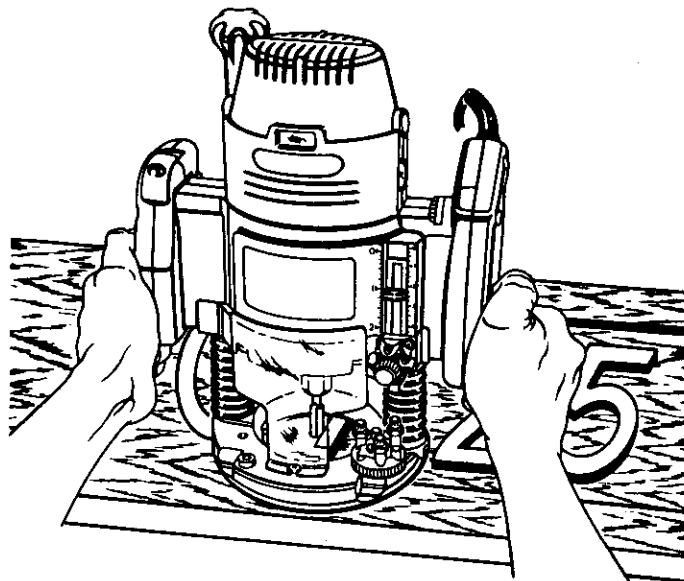

Fig. 23
See Figure 23.
- Routing out the background, leaving the letters or pattern raised above the surface as shown in figure 23.